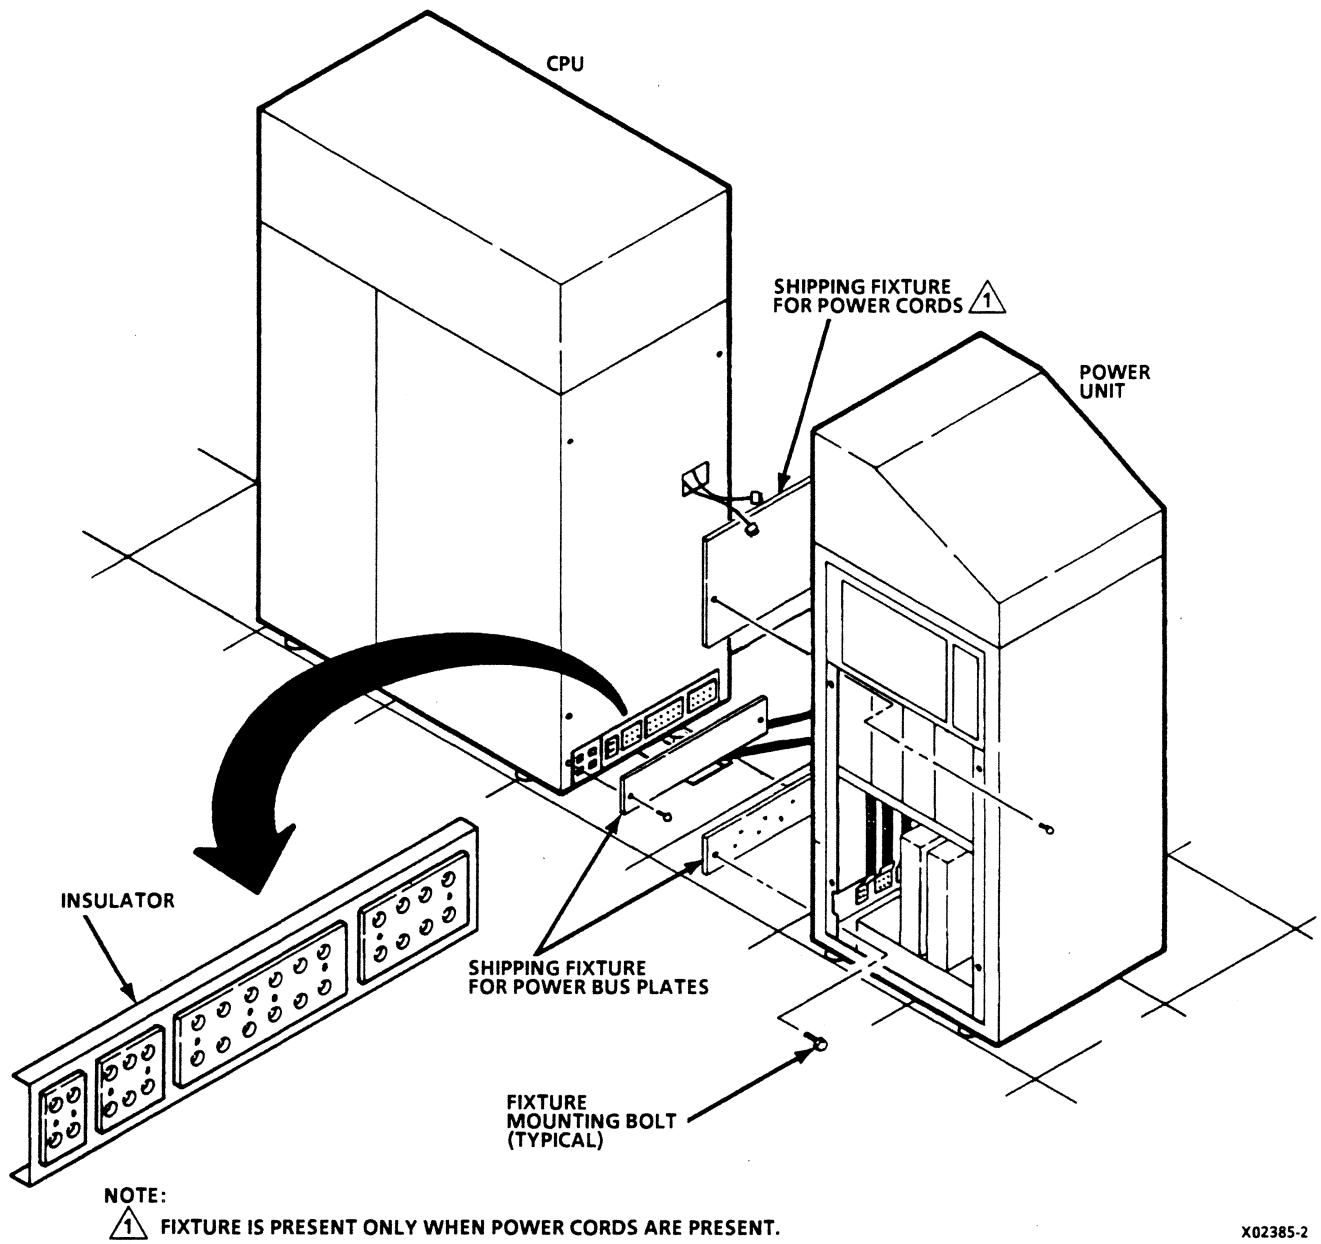

Figure 2-7. Power Bus Plate Preparations
- ___ 2. Remove shipping fixture (figure 2-7) from power unit power bus plates. Remove mounting bolts from rear of plates, inside unit. (Use a 1/2-in deep socket on a ratchet wrench.)